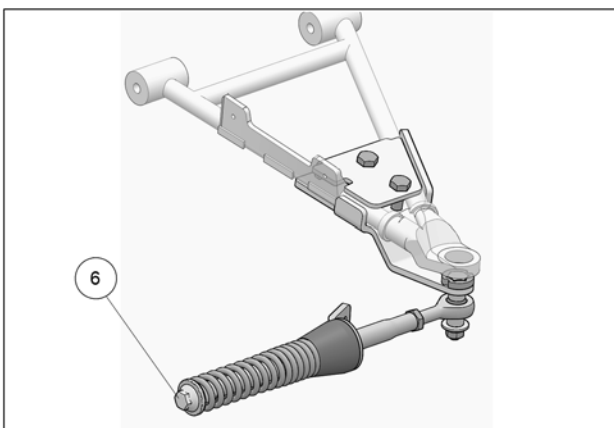

Fig. 19
9. Verify that spring assembly bolt (6) is tightened to the recommended torque specification: 75 N•m [55 lb•ft]. Refer to Fig. 19